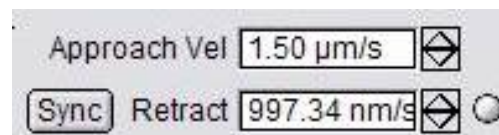

Figure 24: Sync mode allows different piezo approach and retract velocities
- **Split/ Sync piezo velocity modes:** This button allows the user to select different approach and retract piezo velocities (figure 24).